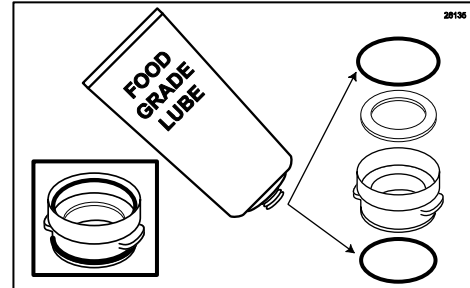

Figure 107
1. Ensure that the Spout Adapter has been sanitized according to instructions in the SCHEDULED MAINTENANCE section. Then lube and install the white gasket and both o-rings in their proper places inside and outside of the Spout Adapter. (See Figure 107.)